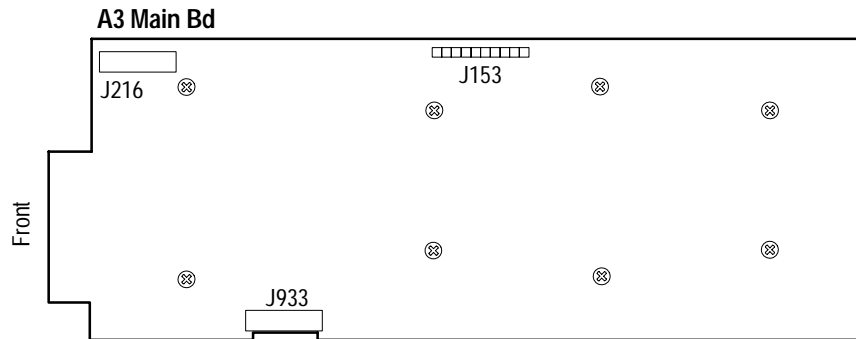

Figure 6-6: Screws holding the main circuit board (A3) in place.
4. Remove the eight screws that are holding the board in place. See Figure 6-6 for their locations.